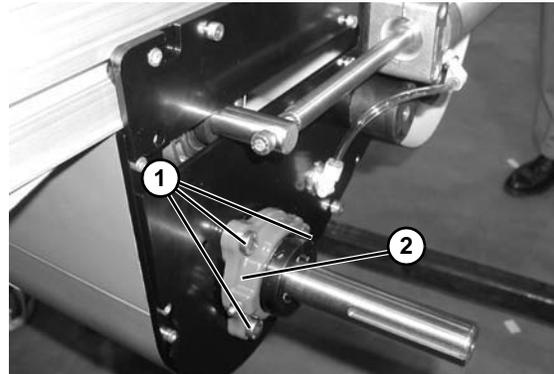

Figure 88
4. Remove the three (3) mounting screws (Figure 88, item 1).
5. Remove and replace bearing housing assembly (Figure 88, item 2).